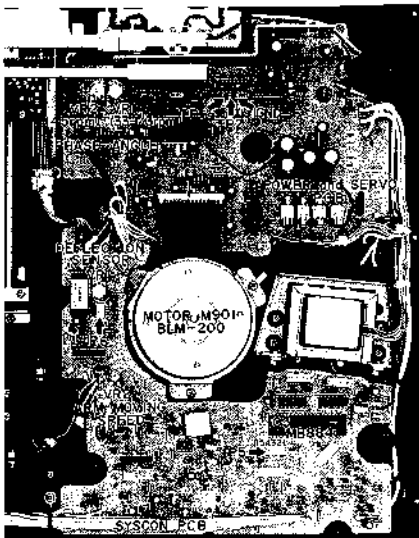

Fig. 22
(Refer to Figs. 22, 25)
- 4) Turn Syscon P.C. Board VR1 (Fig. 22) counterclockwise all the way.